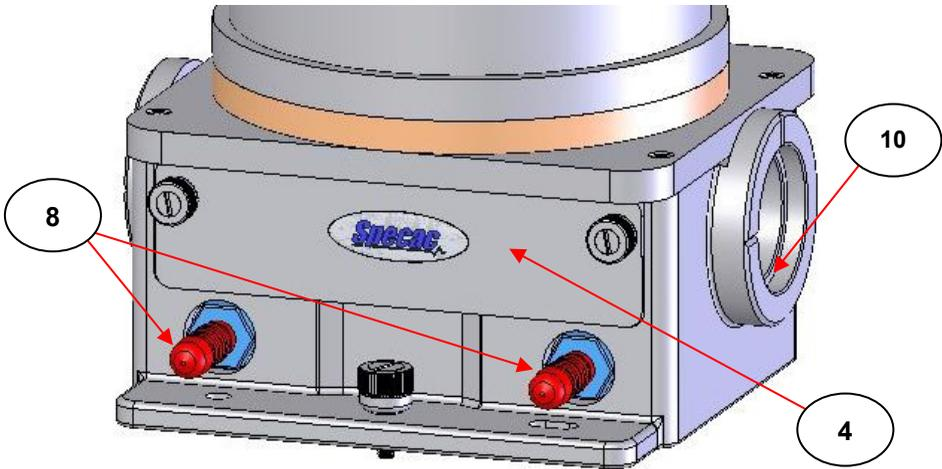

Fig 8. Purge Ports on Optical Unit of Cyclone™ Gas Cells
port fittings. With their removal flexible purge tubing (silicone rubber) can be connected in place to the barbed tubing connections. One of the ports (8) acts as an inlet and the other as an outlet for gas flow. (See Fig 8.). The cover plate (4) is not removed to purge the optical unit.
The purge bellows (9) push fit over the circular aperture ports (10) at each end of the optical unit (1). (See Fig 8.) The purge bellows (9) may need to be cut to a shorter length for a better fit within the sample compartment when fitted to the optical unit (1).